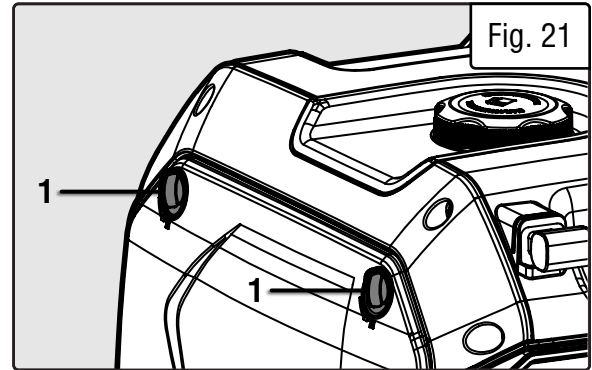

Fig. 21
1. Open the side panel (to the left of the control panel) by twisting the panel lock knobs (Fig. 21 - 1) a quarter turn.